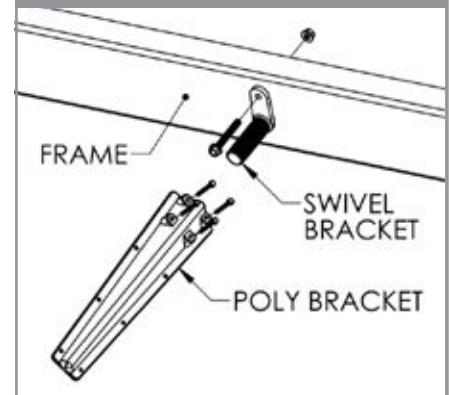

FIGURE 8
- Place four 5/16" x 3" bolts through the (PB501026CF) poly bracket and the (PBLOCK) backing block to clamp the (PB5015) swivel. (See Figure 8)